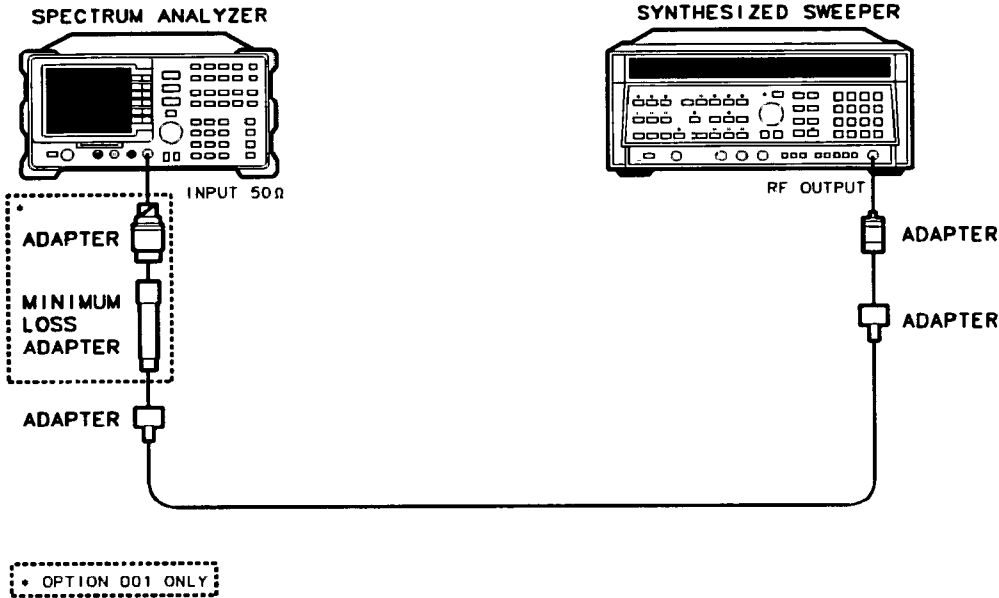

Figure 3-14. Frequency Drift Test Setup
2. Connect equipment as shown in Figure 3-14.